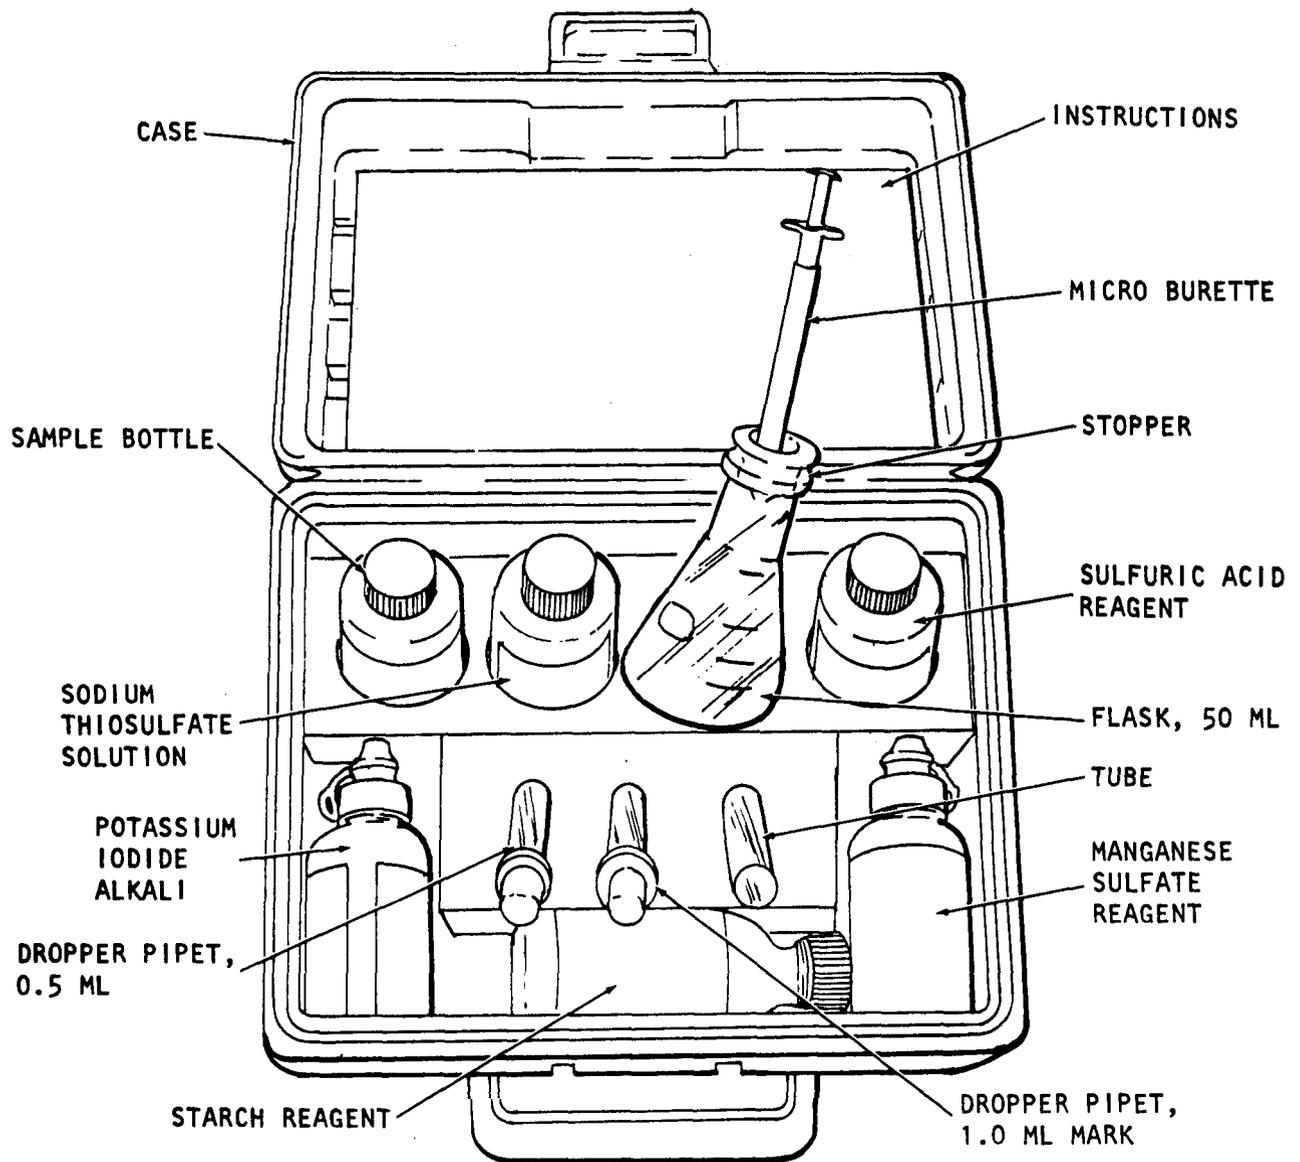

Figure 2-9. Dissolved Oxygen Test Kit
d. Dissolved Oxygen Test Kit. (Fig. 2-9)
(1) Dissolved Oxygen is one of the most important analyses in determining the quality of natural waters. The effect of oxidation wastes on streams, the suitability of water for fish and other organisms and the progress of self-purification can all be measured or estimated from the dissolved oxygen content. In aerobic sewage treatment units, the minimum objectionable odor potential, maximum treatment efficiency, and stabilization of wastewater are dependent on maintenance of adequate dissolved oxygen. Frequent dissolved oxygen measurement is essential for adequate process control.